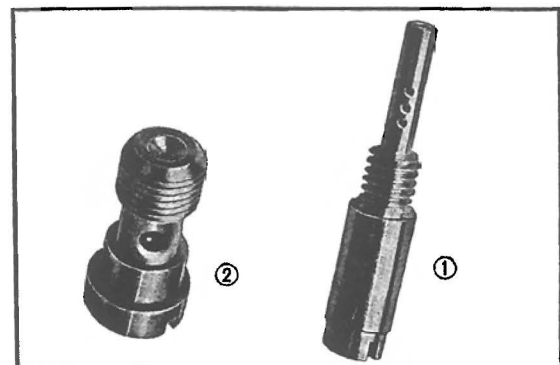
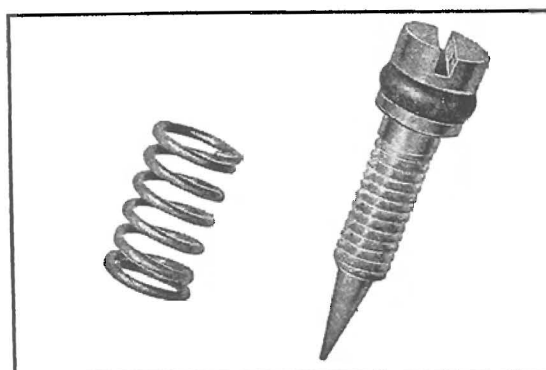

Fig. 3.125 Pilot jet and slow jet
Fig. 3.129 Pilot screw
Flow value of fuel which passed through the main jet is controlled at slow jet through pilot jet, and simultaneously, the fuel is mixed with air from the slow air jet at the air bleed of slow jet. The mixture jets from the pilot outlet (12) and bypass (13) near the periphery of the throttle valve. (Fig. 3.125) On the pilot outlet (12), the pilot screw which regulates the mixture is provided. (Fig. 3.129)
The engine rpm at idling point is between 1000~1200 rpm. (Fig. 3.129)